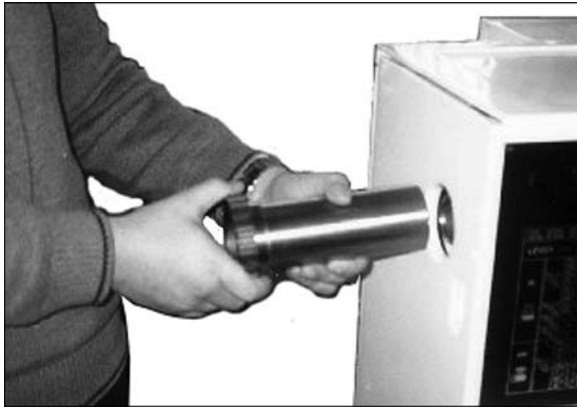

Figure 1
6. Screw the coupling assembly into the spindle threads (Figure 1).